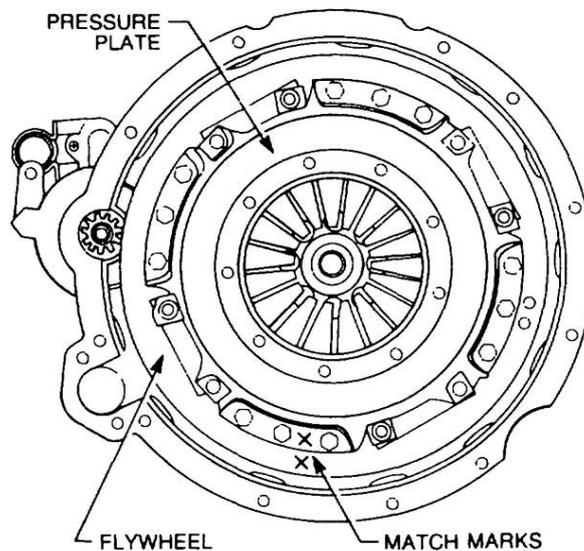

Figure 51 Removal of the Pressure Plate
- b. Lock the flywheel to prevent it from turning and match mark the clutch pressure plate to the flywheel (Figure 51). Remove the bolts securing the pressure plate to the flywheel by alternately slackening each of the twelve bolts to prevent distortion of the pressure plate housing. Discard the lock-washers.